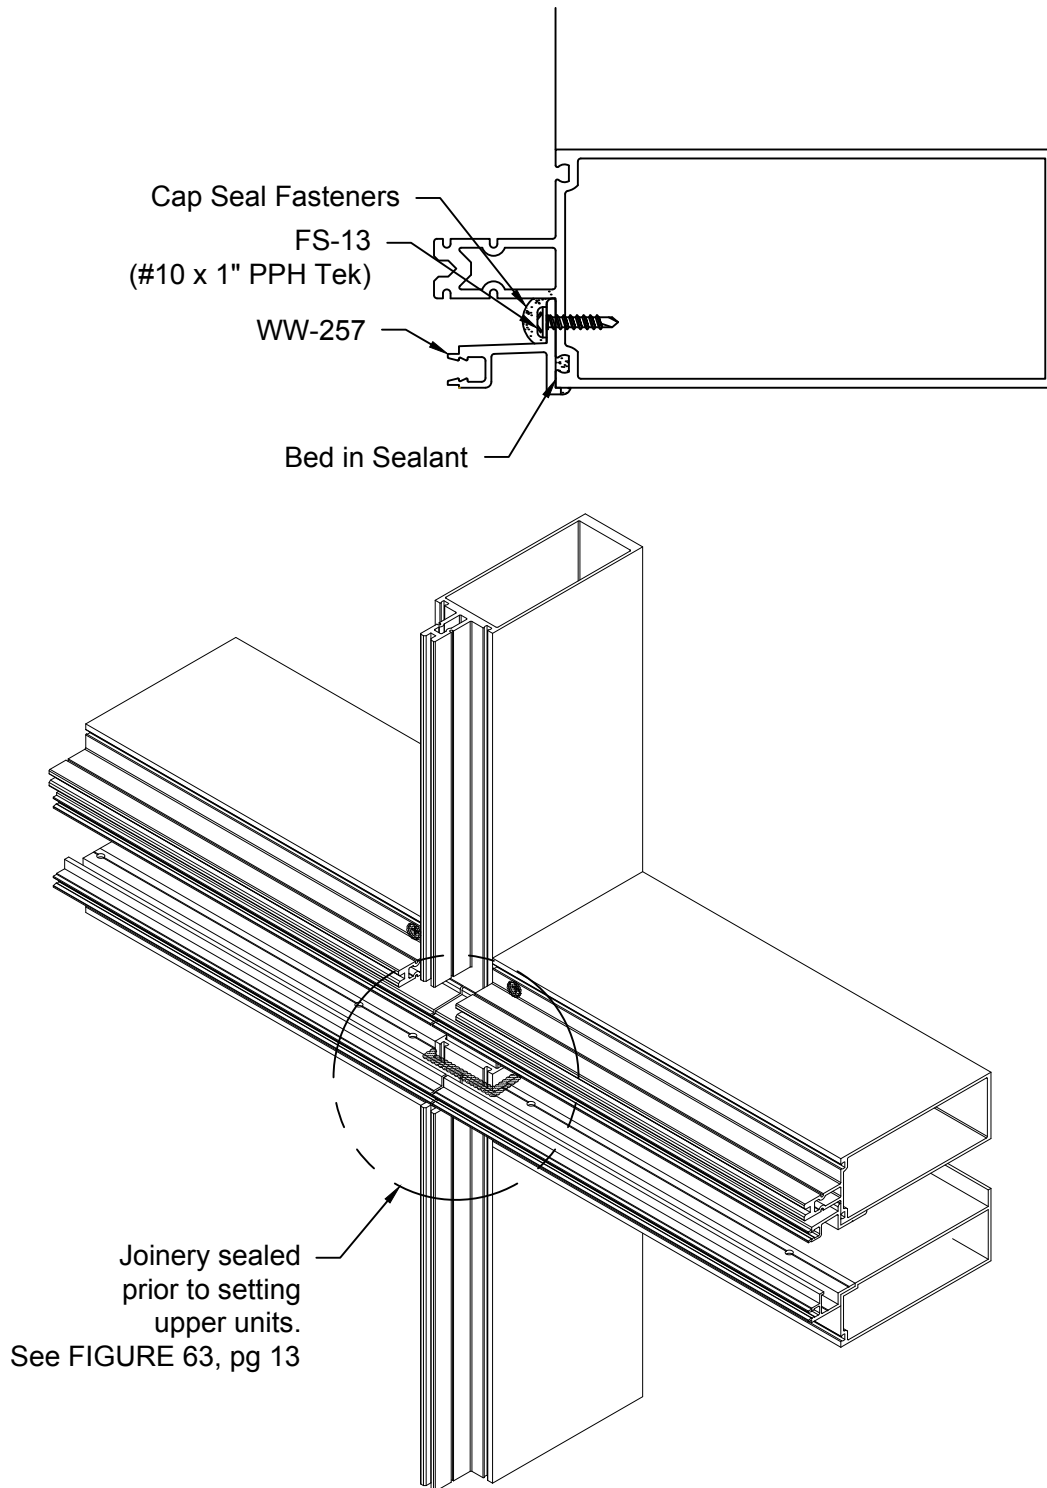

FIGURE 8
- 1.11 Install WW- 257 upper gasket retainer to face of horizontal. Bed in continuous bead of sealant and cap seal all fasteners. A 1/4" joint will be located at mull center lines. Attach with FS-13 (#10 x 1" PPH Tek) at 12" on center. **See FIGURE 8**